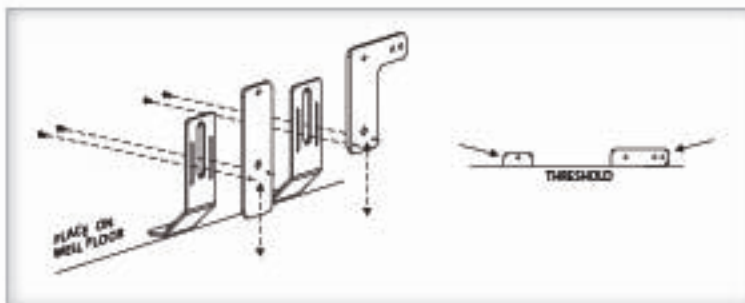

Figure 20-2
2. Establish height by having mounting holes show over threshold. [Figure 20-2]